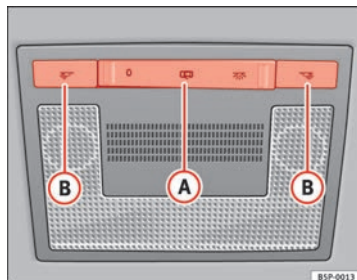

Fig. 79 Interior roof trim:
The switch (A) ⇒ Fig. 79 is used to select the following positions:
Push the switch to position O ⇒ Fig. 79.